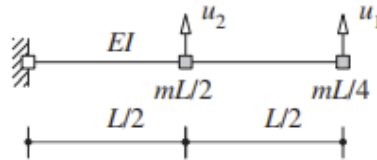

Fig 2.1
2. Determine the natural frequencies & modes of vibration of the system shown in Fig. 2.1